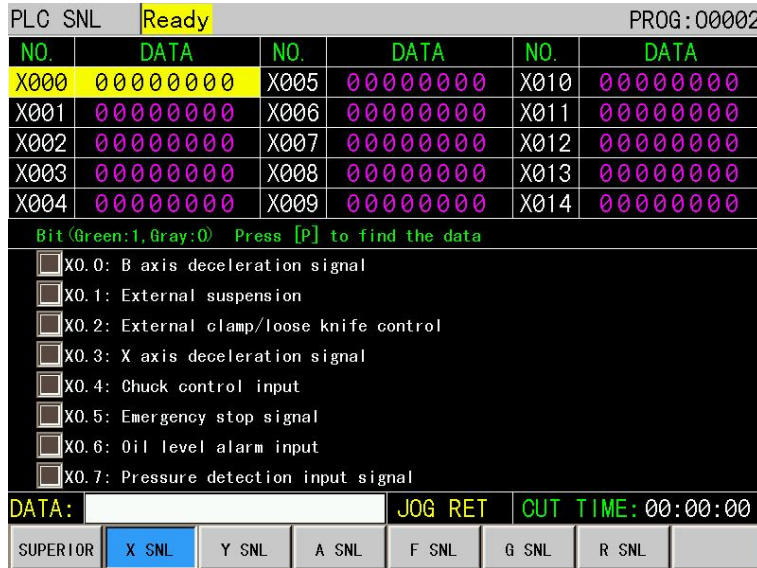

Figure 3-6-2-1
1、 Press the 【 PLC Signal 】 soft key in the<Diagnosis>interface of the CNC diagnostic interface to enter the PLC signal interface. See figure 3-6-2-1: